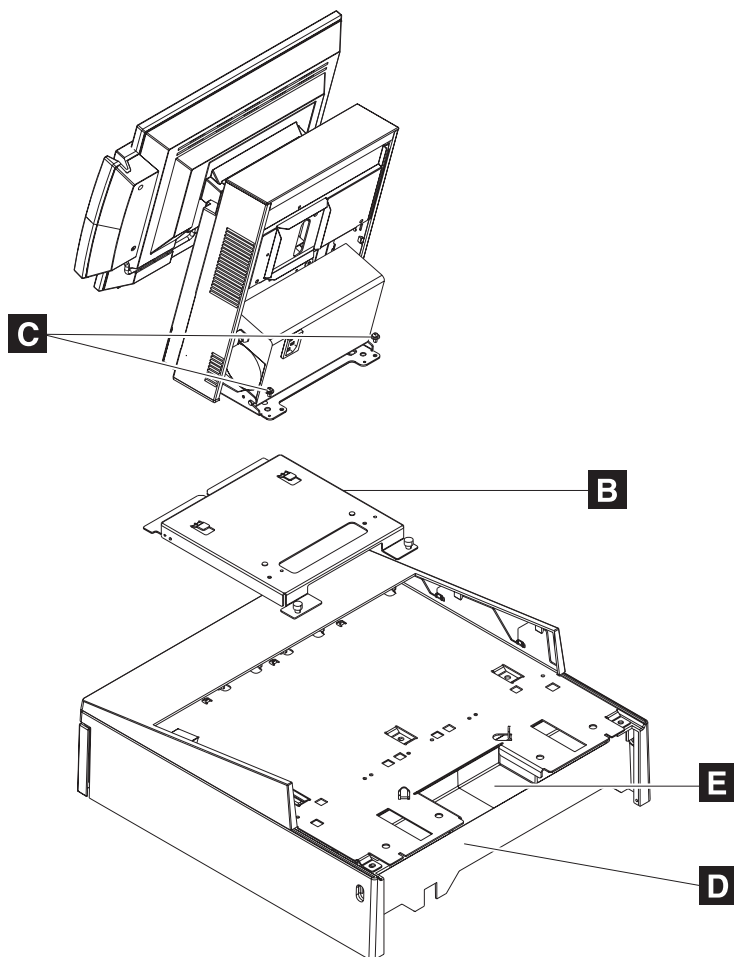

Figure 50. Attaching a mounting plate to center of cash-drawer integration tray
- c. Attach the system base to the mounting plate **B** with the screws **C**, as shown in Figure 50.